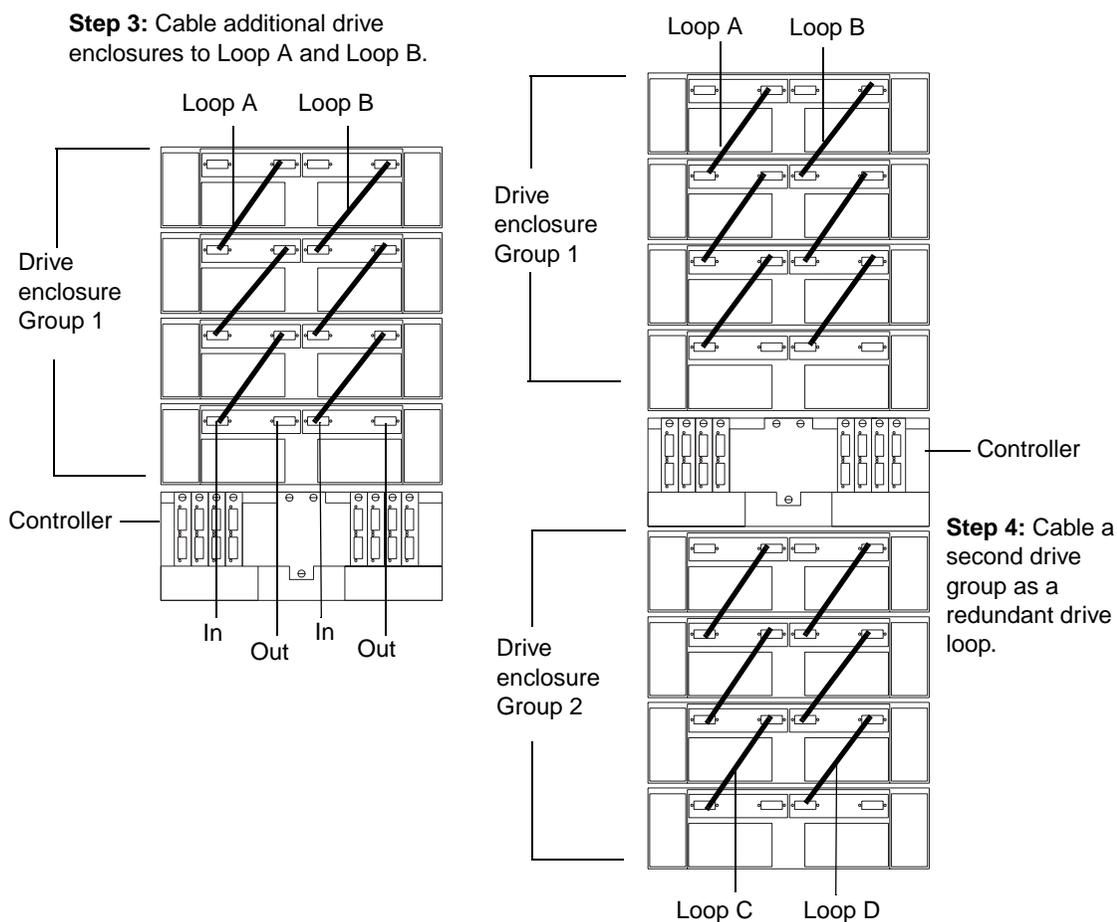

Figure 20. Connecting a second redundant drive loop
- 3 Connect additional drive enclosures to drive Loops A and B, as shown in Figure 20.
- 4 Repeat Step 1 on page 31 through Step 3 to cable a second drive group (Loop C and Loop D on Drive Group 2) in the same manner, as shown in Figure 20. When you finish, go to "Connecting drive cables to the controller unit" on page 33.